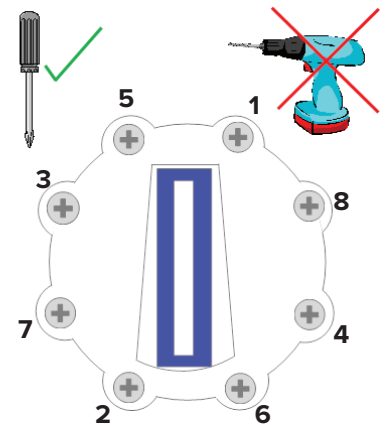

Fig 2.5
8. Using a hand Phillips-head screwdriver, slowly tighten the screws in a diagonal pattern, per the diagonal sequence shown in Fig.2.5. Do not fully tighten one screw before proceeding to the next, i.e., pull them down slowly multiple times to avoid stressing and cracking the lid. Screws should be tightened to a final torque of 25 in./lbs. or 2.8 Nm. **Disclaimer: Under no circumstances should the screws in the AcuFlow lid assembly or sensor be tightened with an electric screwdriver in the ‘drill’ setting. This can result in a cracked lid or sensor and will void the product warranty.**